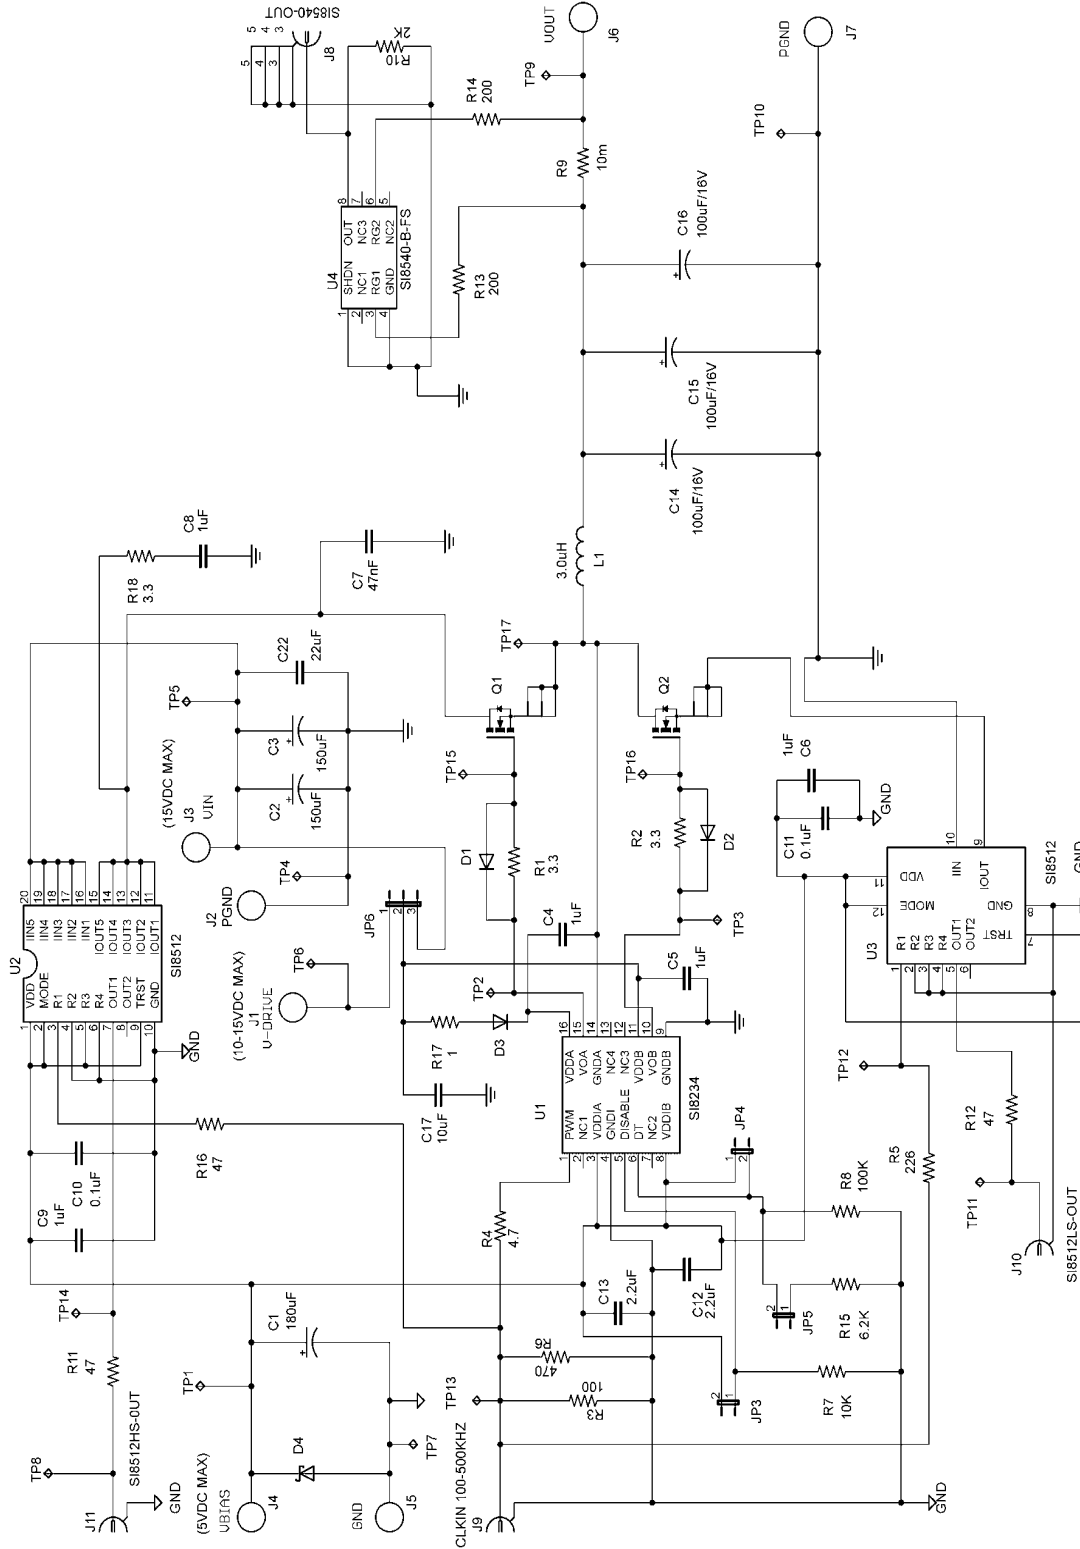

Figure 6. Open Loop POL Evaluation Board Schematic (Power)
- Removed Figure 6, “Open Loop POL Evaluation Board Schematic (Sense)”.